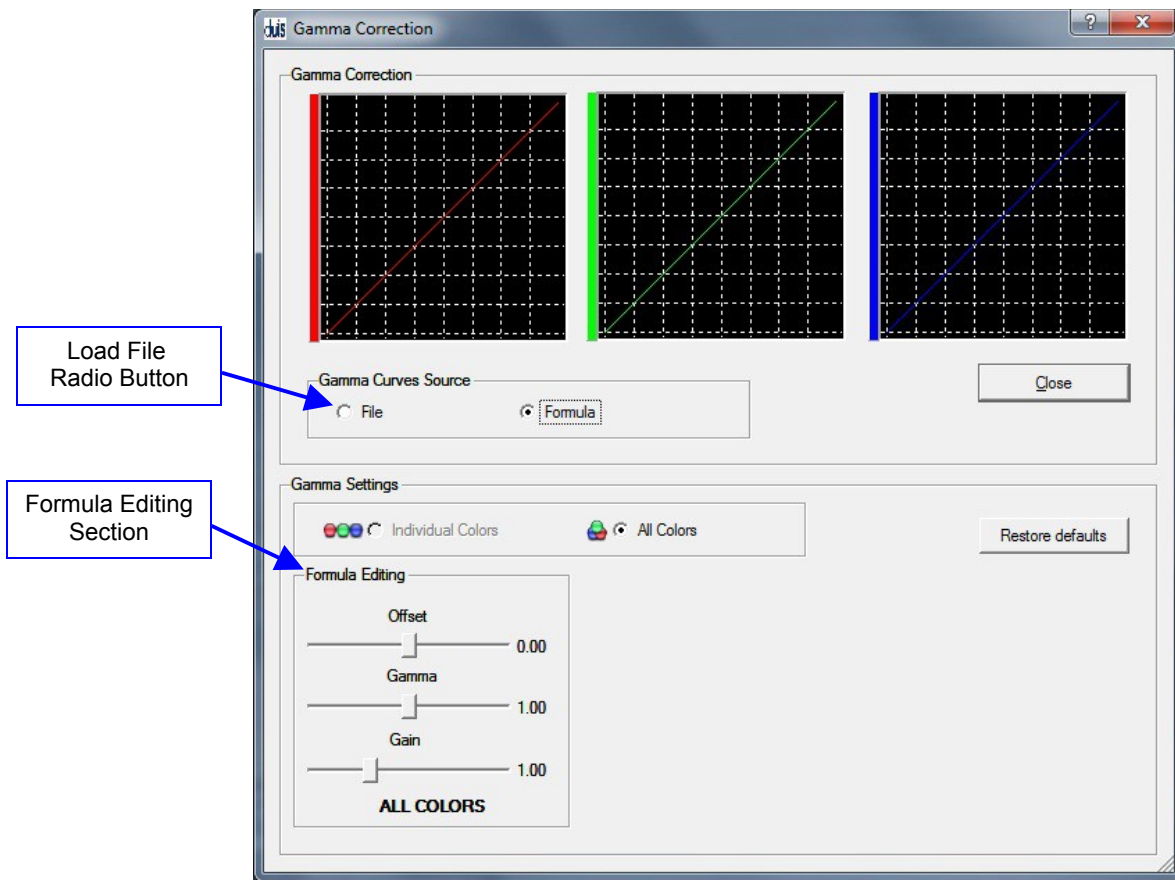

Figure 18: Gamma Correction Pop-Up Window
- From the Gamma Correction pop-up window (see Figure 18), you can adjust the Gamma Curves by “Formula” by adjusting the slider bars in the “Formula Editing” section or by loading a file.